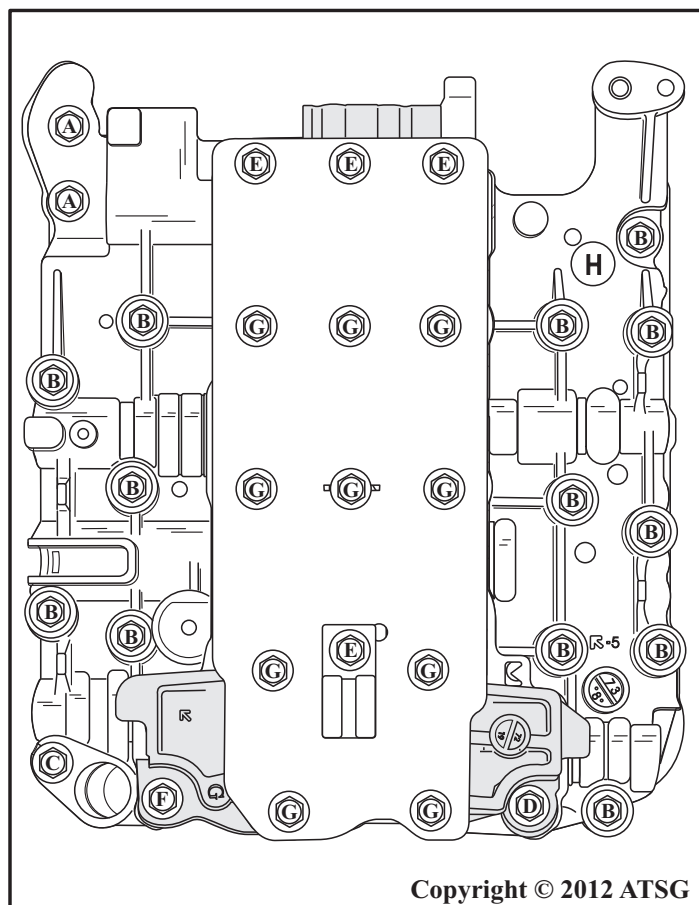

Figure 55
7. Remove the valve body to case mounting bolts as shown in Figure 55.
Note: Remove all valve body bolts "Except" the bolts that we labeled with "E", as shown in Figure 55. The bolts labeled with "E" are solenoid body to main valve body bolts.